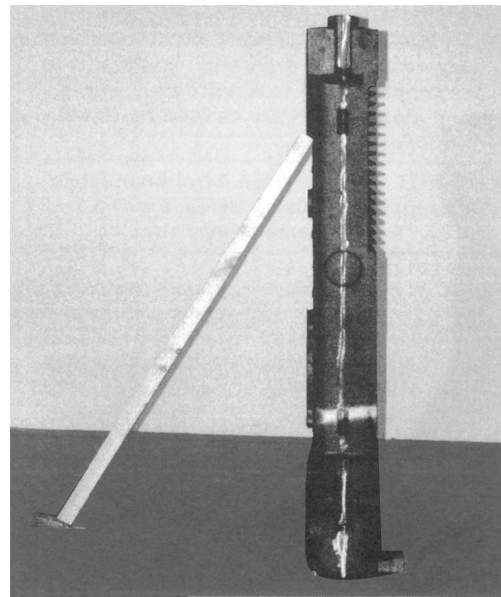

Figure 5: Positioning of Back Section
- a. Place the rear section in its approximate final position, as outlined in Section I, and support it with a suitable prop and wedges. See Figure 5.
- e. While the adhesive is becoming tacky, clean nipples and nipple ports thoroughly with a de-greasing solvent. Use Loctite #592 or equivalent to lubricate the nipples and nipple ports. Apply the lubricant to the nipples and nipple ports, then use a brush to disperse it evenly around the nipples and the nipple ports. Use approximately 25 ml of Loctite #592 per flueway [(1) 7" and (2) 3" nipples and their (6) corresponding nipple ports].